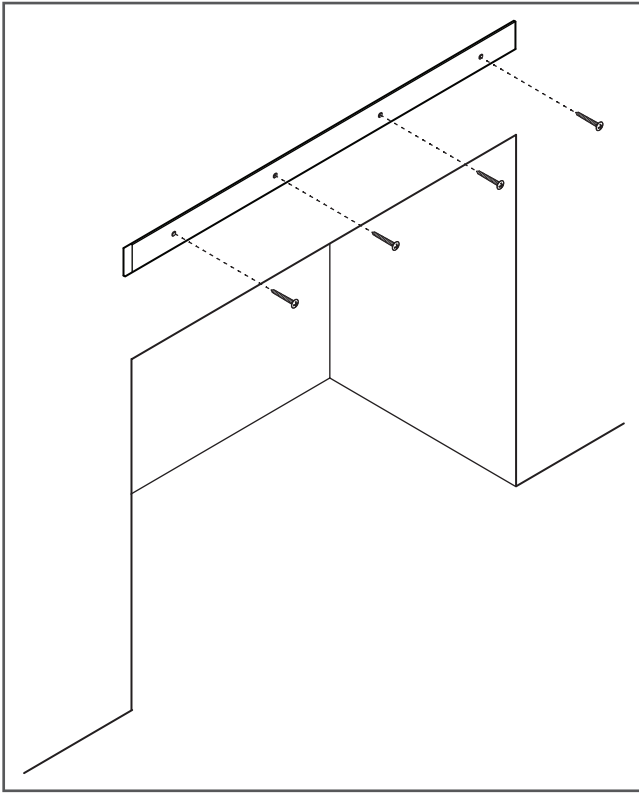

Figure 6
11. Attach the cleat to the wall using anchors (D), where applicable, and screws (Figure 6).